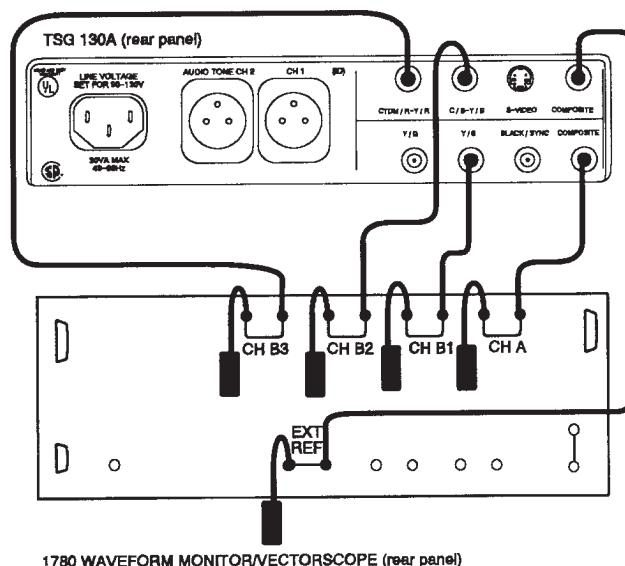

Figure 5–2: Basic performance check setup
- a. Connect the equipment as shown in Figure 5–2.
- a. Connect the test equipment as shown in Figure 5–2.